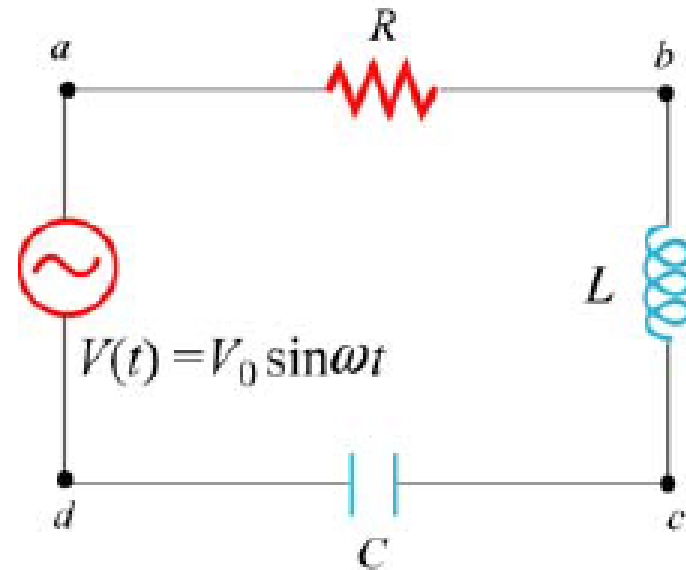

Figure 12.9.1 RLC series circuit
Suppose an AC generator with $V(t) = (150 \text{ V})\sin(100t)$ is connected to a series RLC circuit with $R = 40.0 \ \Omega$, $L = 80.0 \text{ mH}$, and $C = 50.0 \ \mu\text{F}$, as shown in Figure 12.9.1.
- Calculate the maximum potential difference across the inductor and the capacitor between points b and d shown in Figure 12.9.1.